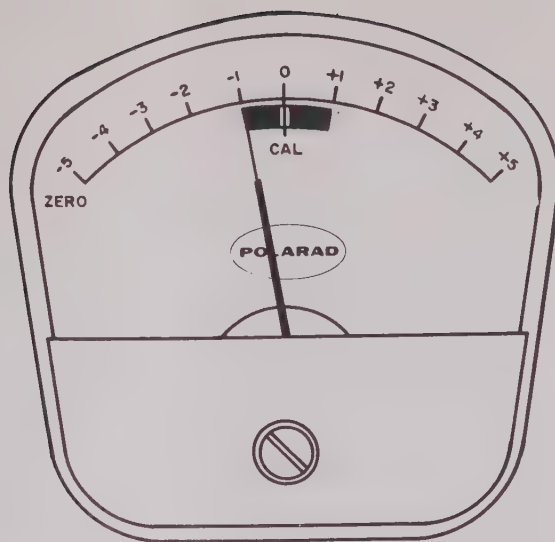
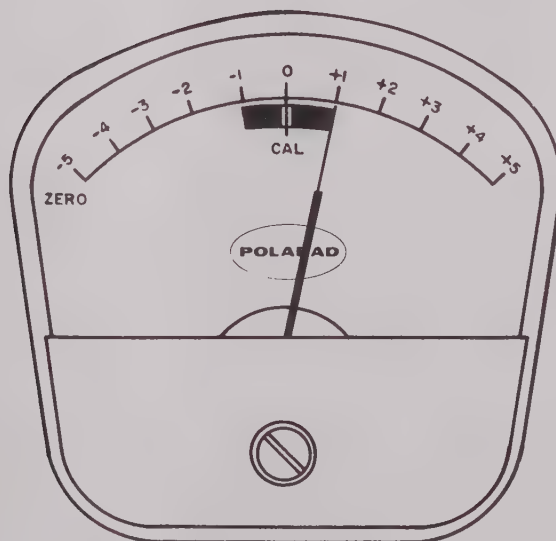

Figure 4-28. Power Monitor Meter Pointer Deflection
Figure 4-29. Power Monitor Meter Pointer Deflection
p. Adjust L.O. Opr Bias control R714 (R414) to obtain a power monitor meter pointer deflection corresponding to figure 4-28 (figure 4-29).
o. Adjust L.O. Opr Bias control R614 (R514) to obtain a power monitor meter pointer deflection corresponding to figure 4-28
(figure 4-29).